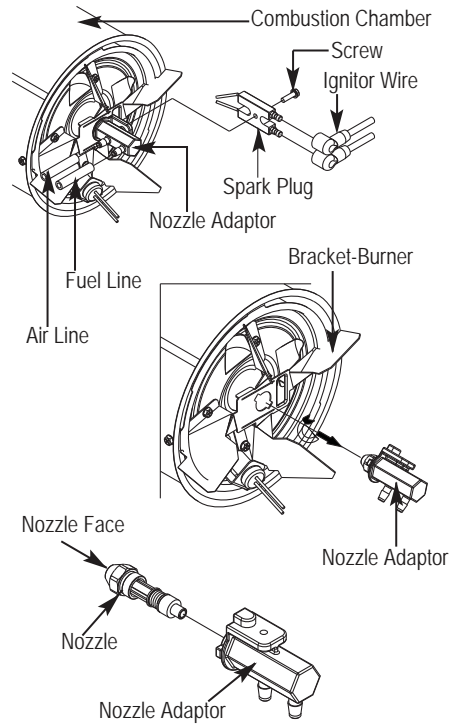

Figure 14 – Nozzle Replacement CP210DK
- Turn nozzle adaptor 1/8 turn (45°) to counter clock wise and pull toward motor to remove. (See Figure 14)